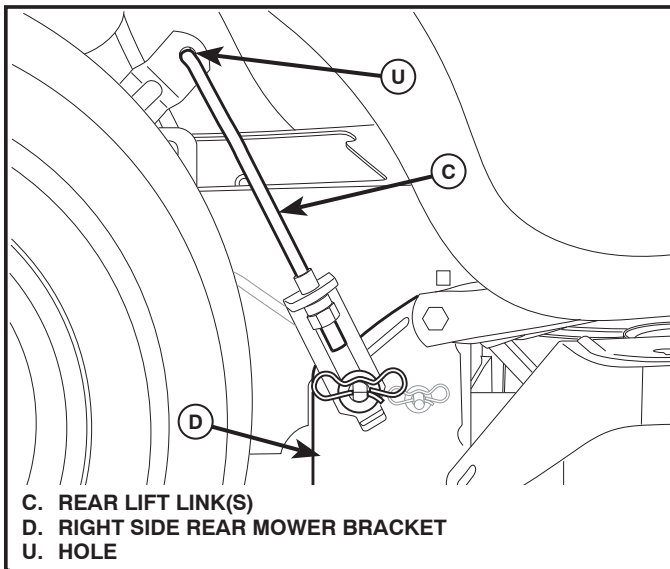

Fig. 30
## 7. ATTACH REAR LIFT LINKS (C) (See Fig. 30)
- Insert rod end of rear lift link (C) into hole (U) in tractor lift shaft suspension arm and pivot link down to mower.
- Lift rear corner of mower and position slot in link assembly over pin on rear mower bracket (D) and secure with large washer and large retainer spring.